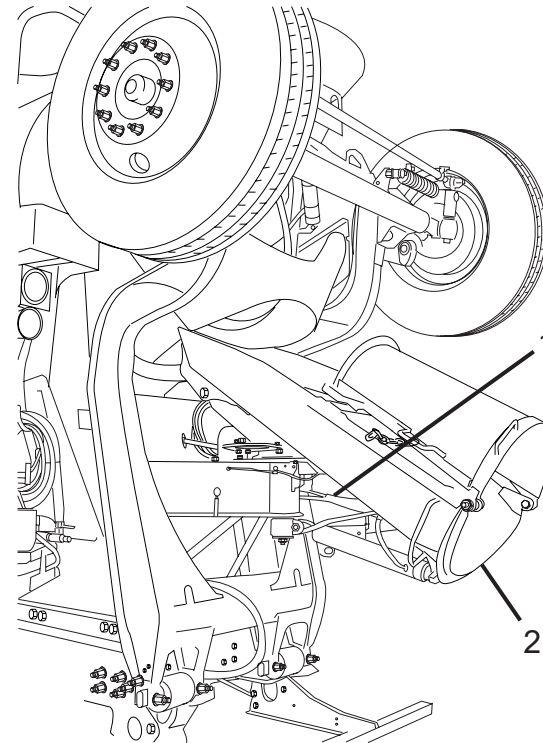

Figure 35
2. While holding the chute, pull down on the lever (Figure 35, Item 1) and move it to the right or left until the lever is seated in one of the lock positions.
3. Move the main chute (Figure 35, Item 2) to the desired position, and while holding the chute, move the lever to the center. Make sure the lever pin is fully seated into one of the holes in the chute plate before releasing the chute. Move the chute from side to side as needed to align the pin and hole.